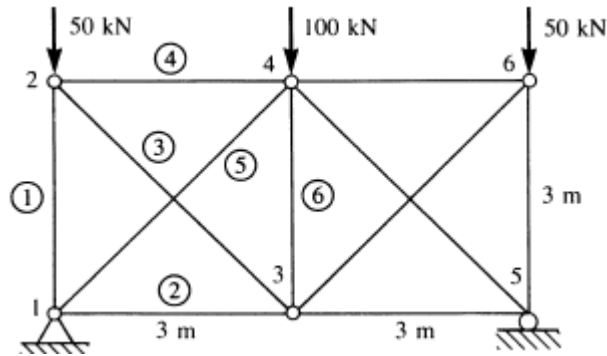

Figure 2
4. For the plane truss shown in Figure 2, determine the nodal displacements, the element forces and stresses, and the support reactions. All elements have $E = 70 \text{ GPa}$ and $A = 3.0 \times 10^4 \text{ m}^2$. Verify force equilibrium at nodes 2 and 4. Use symmetry in your model. [10]